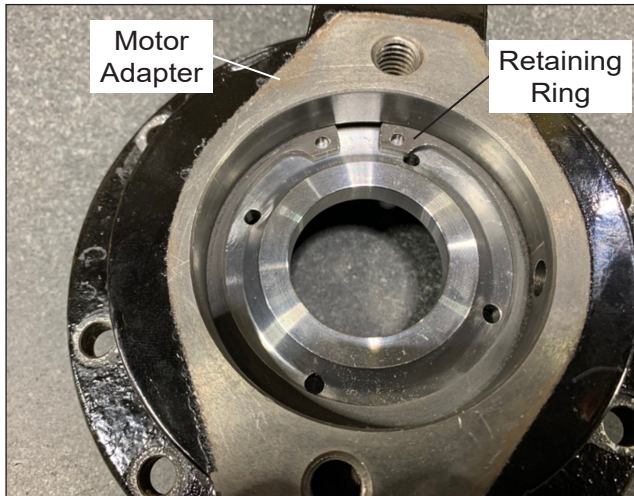

Figure 3 – Locating Retaining Ring
7. Locate the retaining ring in the recess on top of the motor adapter (refer to Figure 3).